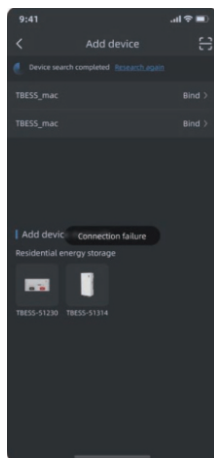

Figure 3
- 3) Figure 3: Restart the device and add it again.